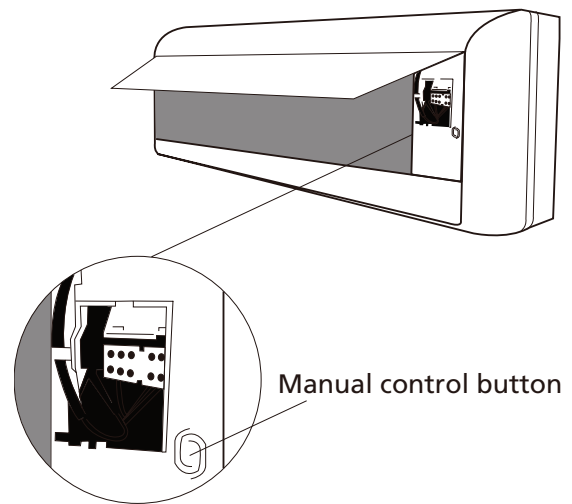

Fig. 8.1
2. The **MANUAL CONTROL** button is located on the right-hand side of the unit. Press it 2 times to select the COOL function. See **Fig.8.1**